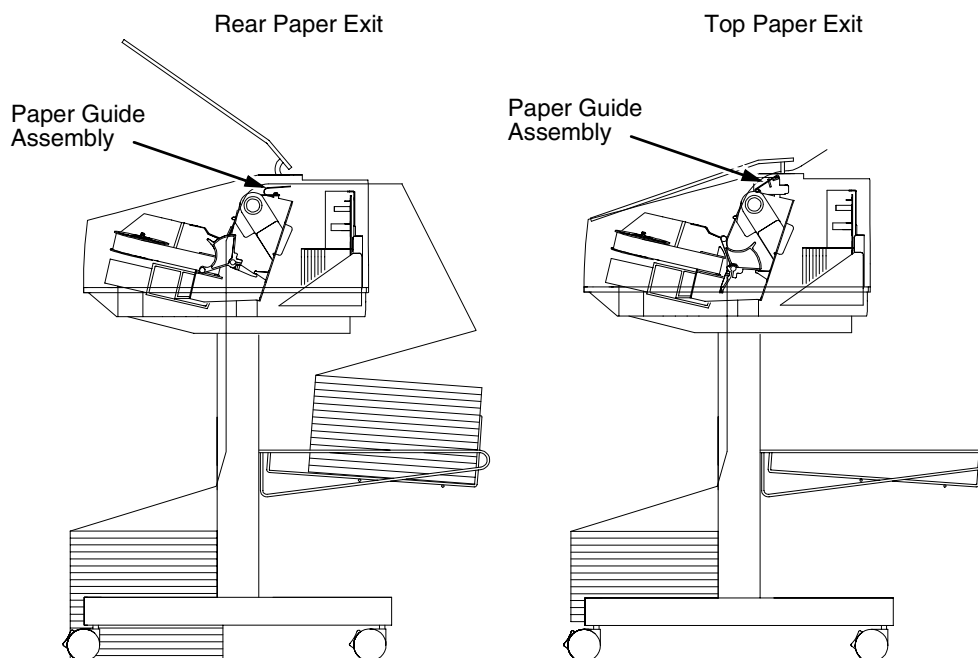

Figure 50. Checking the Paper Feed (Pedestal Models)
- For rear paper exit: Press the **Form Feed** key several times to ensure that the paper feeds properly beyond the tractors, over the paper guide assembly, and through the paper exit slot in the rear of the cabinet. Ensure that the paper folds the same way in the stacking area as it does in the supply area. See Figure 50.
- For top paper exit: Press the **Form Feed** key several times to ensure that the paper feeds properly beyond the tractors, over the paper guide assembly, and through the paper exit slot. See Figure 50.